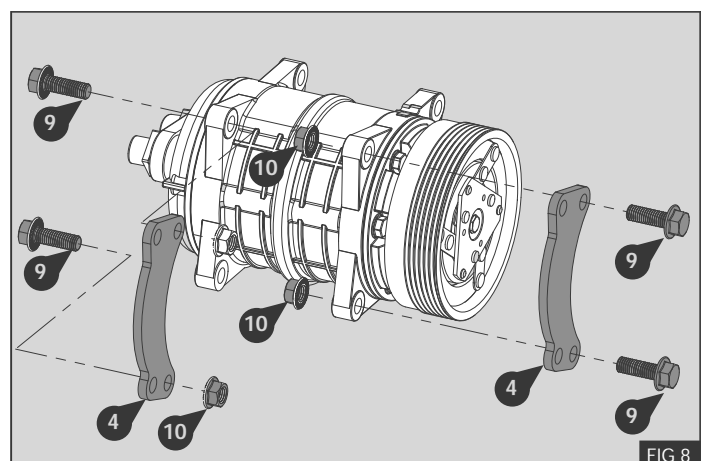

FIG 8
1. Secure the compressor (J) to the mount bracket supports (4) using 4 x M10 x 30 bolts (9) and nuts (10) - Fig 8
2. Torque M10 x 30 bolts (9) to 50Nm